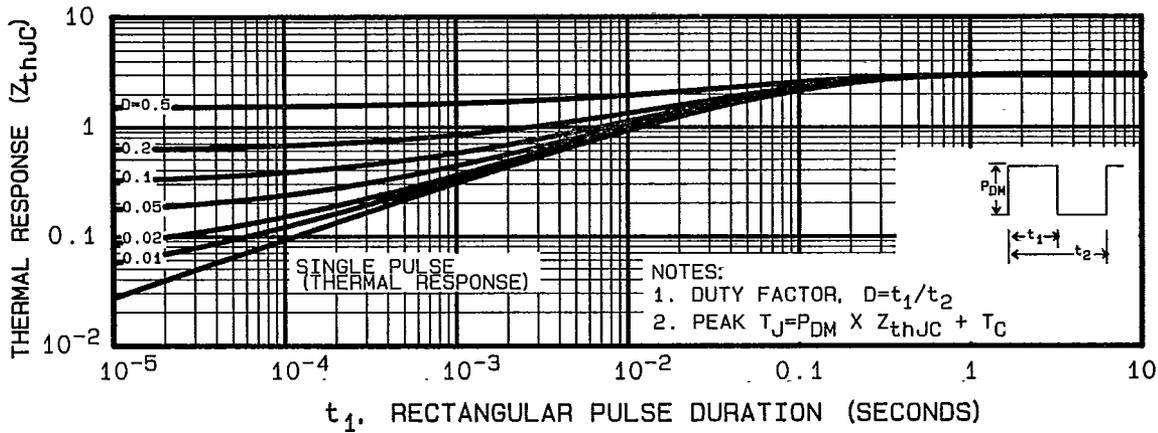

Fig. 5 — Maximum Effective Transient Thermal Impedance, Junction-to-Case Vs. Pulse Duration
- ① Repetitive Rating; Pulse width limited by maximum junction temperature (see figure 5)
- ② @ $V_{DD} = 50\text{V}$, Starting $T_J = 25^\circ\text{C}$, $L = 100\ \mu\text{H}$, $R_G = 25\ \Omega$, single pulse.
- ③ $K/W = \text{ }^\circ\text{C}/\text{W}$